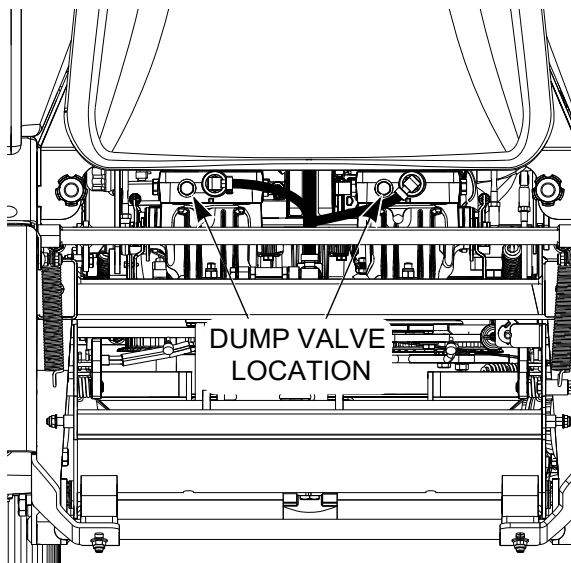

Figure 4-3. Dump Valve Controls
15. Dump Valve Controls (Figure 4-3). Located on the hydraulic pumps, use to "free-wheel" the mower. Rotating clockwise until they stop allows the unit to move under hydraulic power. The levers must be in this position and torqued to 7-10 lb-ft during operation of the mower. Rotating counter-clockwise allows the mower to be moved by hand (free-wheeling). See Figure 4-3.